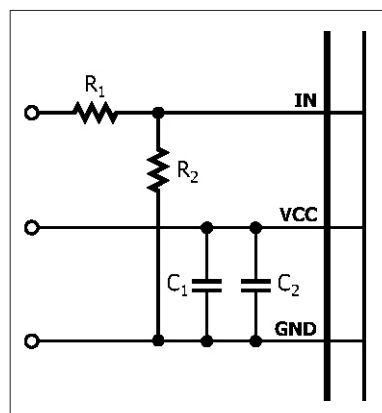
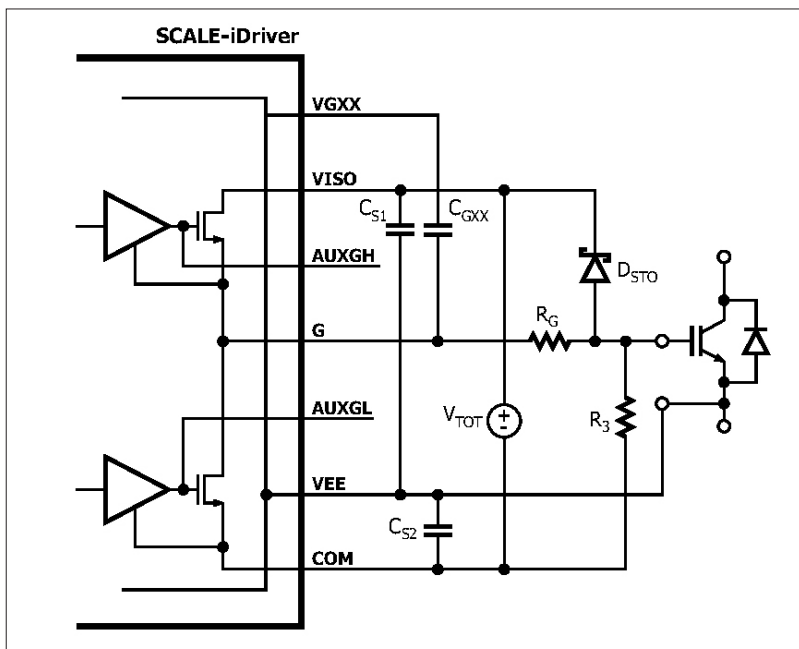

Figure 3: Recommended circuitry for increased IN logic levels (for $R_1 = 3.3 \text{ k}\Omega$ and $R_2 = 1 \text{ k}\Omega$ the IN Logic Level is 15 V)
Figure 4: SID1102K without external booster stage incorporating gate resistor R_G
If the physical distance between the controller and the iDriver is large or if a different logic level is required, the resistive divider in Figure 3 is recommended. This solution adjusts the logic level as necessary and will also improve the driver’s noise immunity.
The gate of the power semiconductor switch should be connected to the iDriver output via pin G, using a suitable gate resistor R_G as shown in Figure 4.
Figure 4 show the schematic and typical components used for a SID1102K design without a booster stage, in which the primary-side supply voltage (V_{VCC}) will be connected between V_{VCC} and GND pins and supported through supply bypass ceramic capacitors C_1 (4.7 μ F typically) and C_2 (470 nF typically). If the command signal voltage level is higher than the rated IN pin voltage, a resistive voltage divider should be used (Figure 3).
Additional capacitor C_F can be used to provide input signal filtering as shown in Figure 4. The filter time τ can be calculated according to equation (1):
To avoid parasitic power-switch-conduction during system power-on the gate is connected to COM through 22 kΩ resistor R₃, as shown in Figure 4.